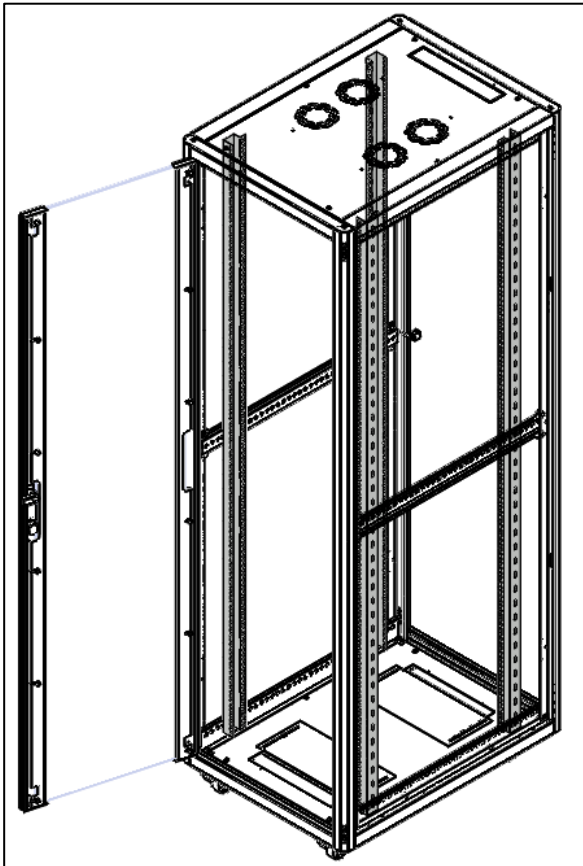

Figure 19-1
Place the 19" Mounting rails as shown on the **Figure 19-1** and tighten with M8x15 Screw, washer & Nut set (D)